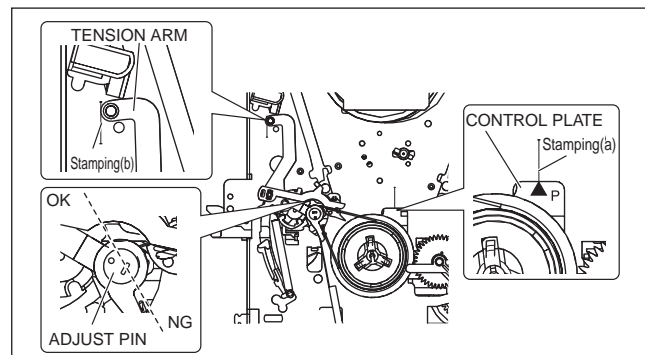

Fig.3-2-1a
- (1) Play back the back tension cassette gauge (A).
- (2) Check that the indicated value on the left side gauge is within the specified value (G).
- (3) If the indicated value is not within the specified value (G), perform the adjustment in a following procedure.(See Fig.3-2-1a.)
- d) Rotate the reel disk (S) by about one turn clockwise and make sure that the round hole of the adjustment pin is located in the "OK" range. If it is outside this range, restart the adjustment from the beginning.